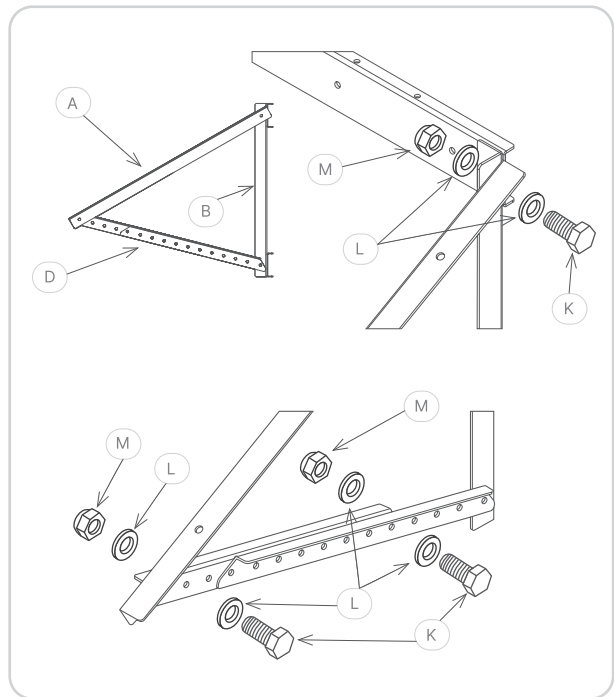

Figure 5. Installation of Carrier and Tilt Bracket.
Assemble the **Carrier Bracket (A)** and **Tilt Brackets (D)** as shown in **Figure 5** using (K), (L), and (M):